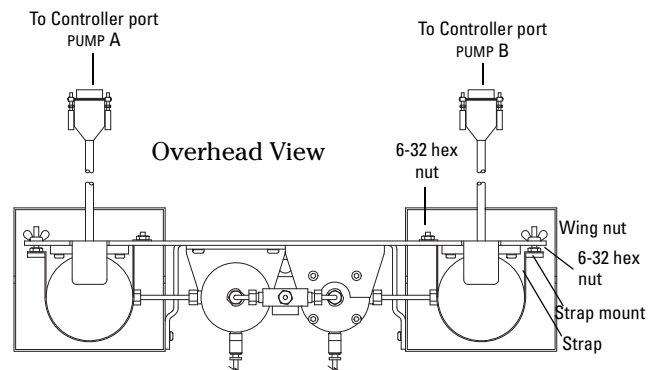

Figure 3: Air valve installation Requires pressurized air source @ 80-115 psi (5.5 - 7.93 bar)
Air Valve Package – The actively controlled pneumatic valve package requires a pressurized air source of 80-115psi (552-793KPa). As shown in Figure 3, connect the two positive (red) wires to any two of the 15VDC terminals on the rear of the controller. Connect the black wire from solenoid #1 (IN) to DIGITAL OUTPUT 1. Connect the black wire from solenoid #2 (OUT) to DIGITAL OUTPUT 2.